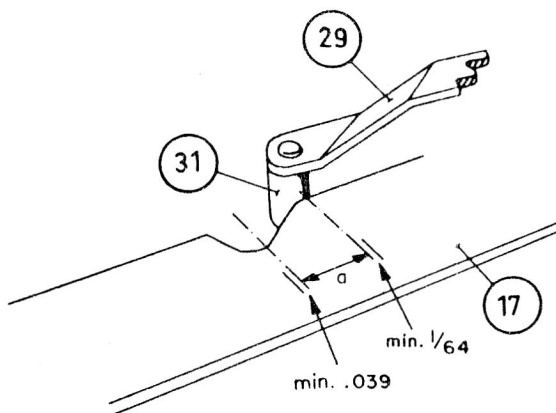

Fig. 12
While strip 17 moves to its stopping position, the pick-up arm is lowered onto the support and the blocking lug, which has been released, is returned to the original position b by the tipping spring 39. When strip 17 has nearly reached its stopping position, the lug of bracket 63 pushes the main switch into "OFF" position. Since the roller 31 has already reached the stopping slope and exerts a force on it, strip 17 jumps into its stopping position. (see Figure 12).
1. The line switch must be switched off when the roller 31 is between the lines marked A (see Figure 12).